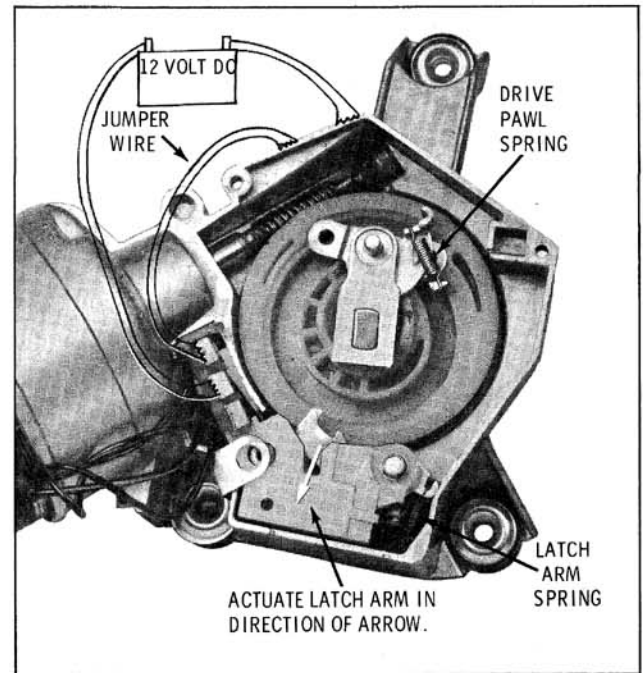

Fig. 13-180 Latch Mechanism
- Observe if relay latch arm spring is connected properly. (Fig. 13-180)
from terminal No. 3 to wiper housing. (Fig. 13-180) Do not make any connections from terminal No. 1. Manually actuate latch arm in direction of arrow (Fig. 13-180) and observe if it remains in energized position (inside plastic switch housing out of path of gear drive pawl). If it remains in energized position, check for grounded red lead from coil to terminal No. 1. If red lead is not grounded, coil is probably grounded internally and relay switch should be replaced.
1. Check that drive pawl and relay latch arm springs are properly connected. (Fig. 13-180)
- b. Connect power source and jumper to wiper as shown in Fig. 13-180 and observe if test light goes out once for each revolution of gear or if light glows steady. If light glows steady, relay switch contacts are not opening and switch is defective. If light goes out each time drive pawl moves into relay switch slot, relay switch is functioning correctly.
1. Check for grounded condition in the internal black lead that connects to wiper terminal No. 3. Refer to Fig. 13-180 for terminal No. 3 location.